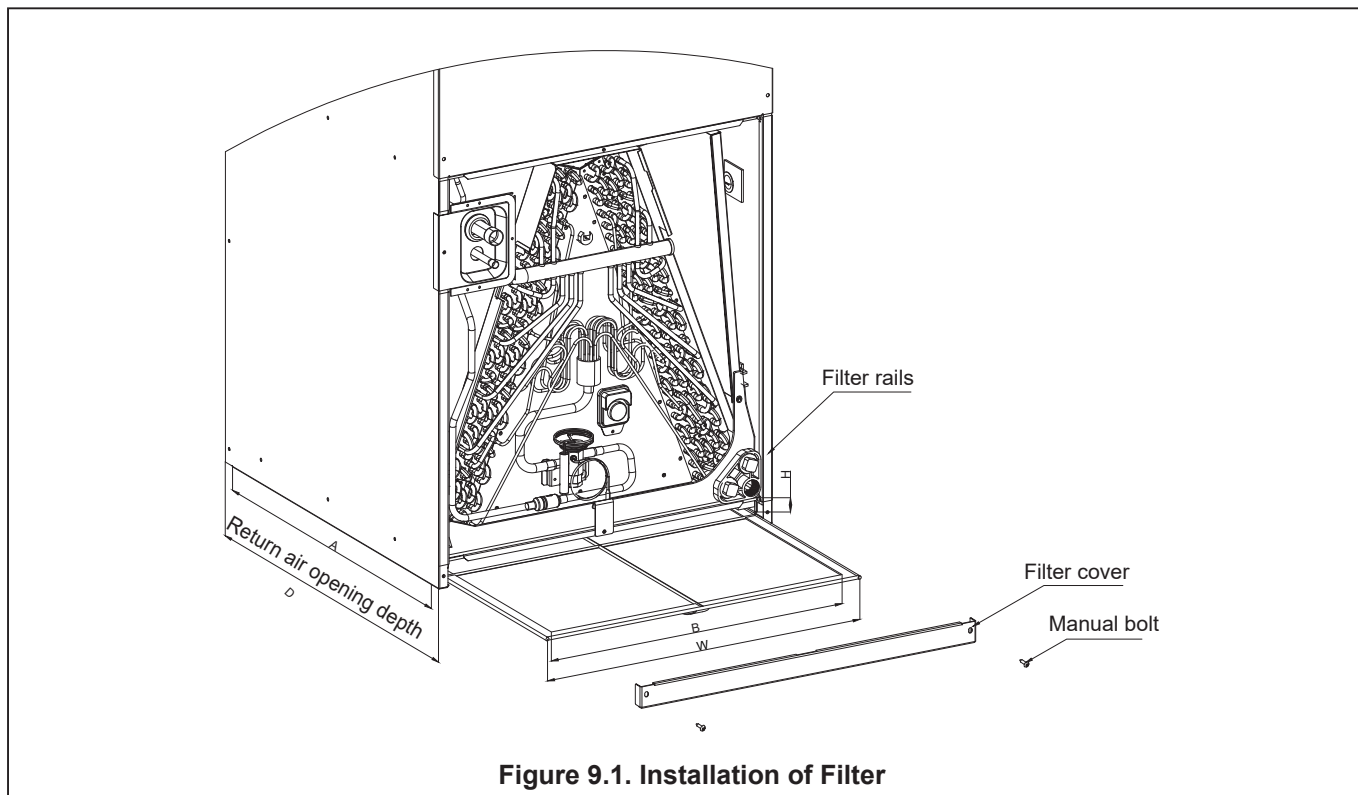

Figure 9.1. Installation of Filter
When installing the indoor unit, regardless of the installation method, ensure that the filter is installed as shown in Figure 9.1.
- Manually remove the bolts and filter cover, as shown in Figure 9.1.